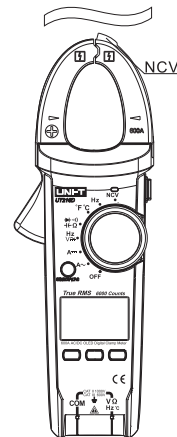

Fig. 12
11.Measurement of induced voltage (shown as Fig. 12)**(1)Set capacitance measuring function gear**